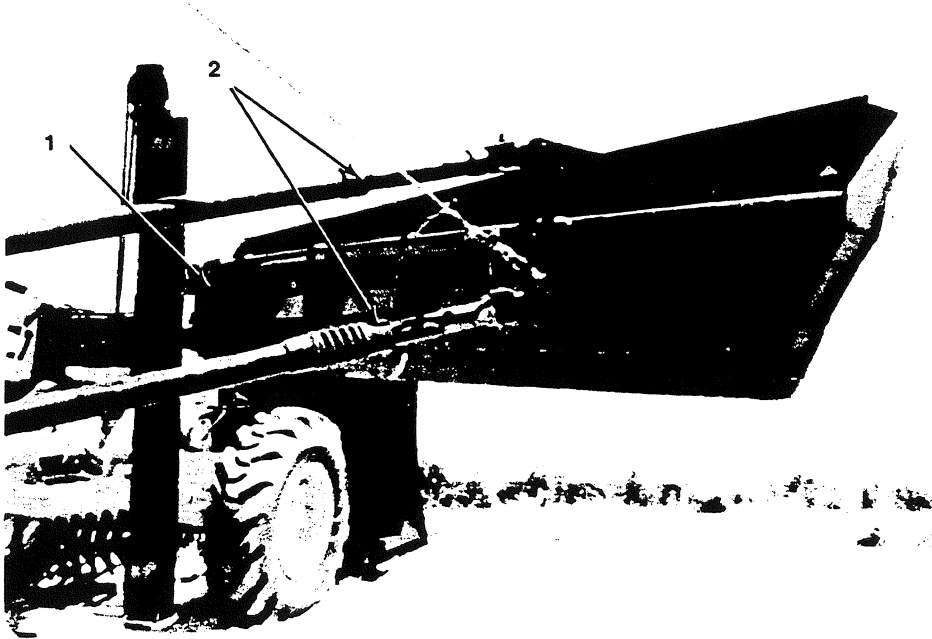

Figure 20
27. Adjustments (Figs. 15 and 20). The amount of wing blade angle and pitch can be varied by adjusting the inner sleeves within the outer sleeves of the stand-off arms. Remove the cotter pins and shear pins, adjust the inner sleeves, and install the shear pins in the nearest alternative hole. Secure with the cotter pins (2, Fig. 20). Wing blade front end height adjustment is achieved by selecting an alternative hole in the blade strengthening plate (1, Fig. 20).